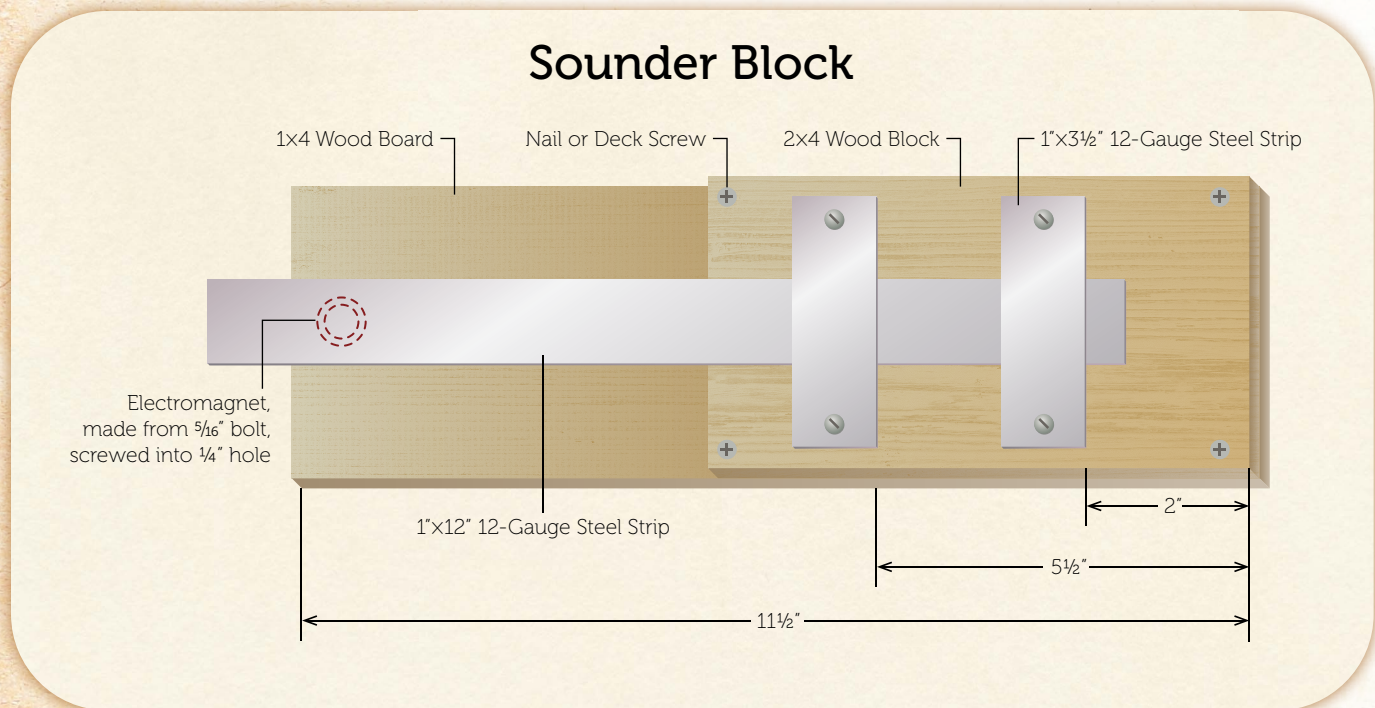

Figure 2.9: Aerial view of the sounder block assembly
1. Drill holes on the faces of the wooden boards and metal strips as indicated in Figures 2.9 and 2.10.
7. Screw both of the 3½-inch-long steel strips onto the 2×4, as shown in Figure 2.9, but don't screw them tight—leave enough space for the 12-inch metal strip to slide underneath.